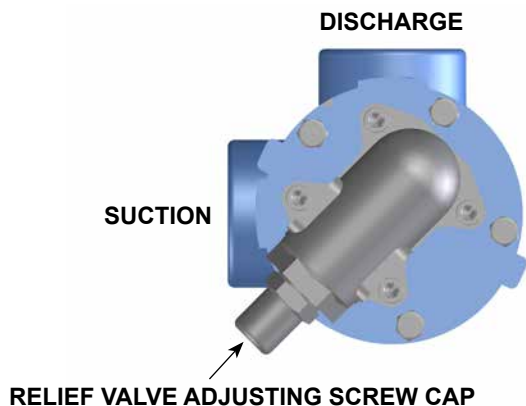

FIGURE 2
4. The relief valve adjusting screw cap must always point towards the suction side of the pump, see **Figure 2**. If the pump rotation is reversed, remove the pressure relief valve and turn end for end (see “**Pump Rotation**”, page 9).